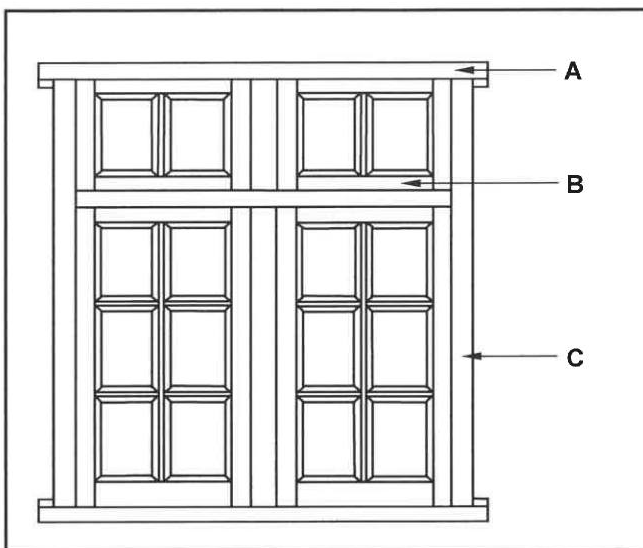

FIGURE 3.1
- 3.1 FIGURE 3.1 below shows the external elevation of a casement within a frame.